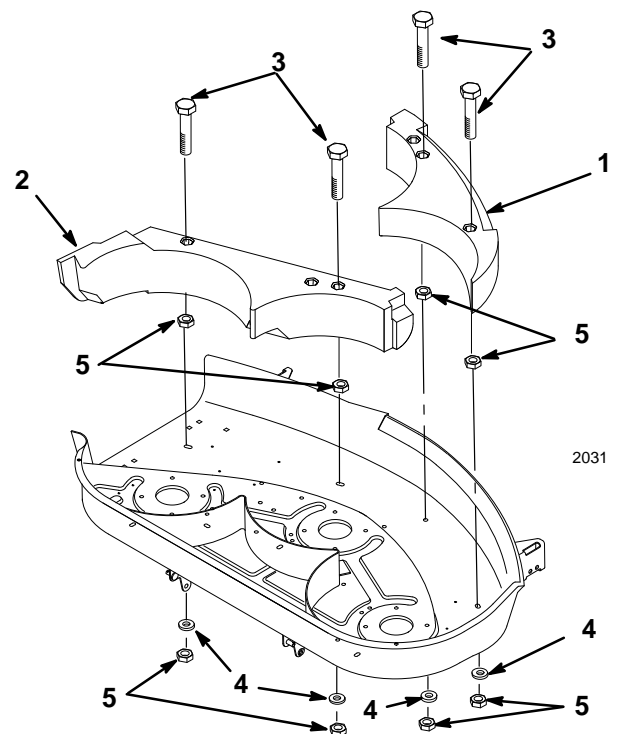

Figure 5
1. Place the left side baffle inside the cutting chamber. Secure it with (2) 5/16" locknuts and (2) Bellville washers (Fig. 5).
2. Place the right side baffle inside the cutting chamber so the extended lug interlocks with the left side baffle, and secure it with (2) locknuts and 2 Bellville washers (Fig. 5).
2. Remove the locknuts and Bellville washers from the right side baffle (Fig. 5).